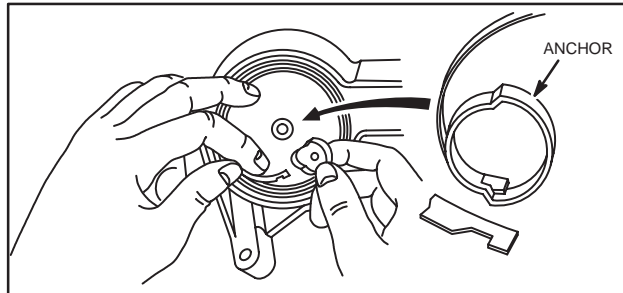

Fig. 628 – INSTALLING SPRING ANCHOR
- Install spring anchor on free end of spring and install pulley cover, Fig. 628. Do not install anchor screw at this time.